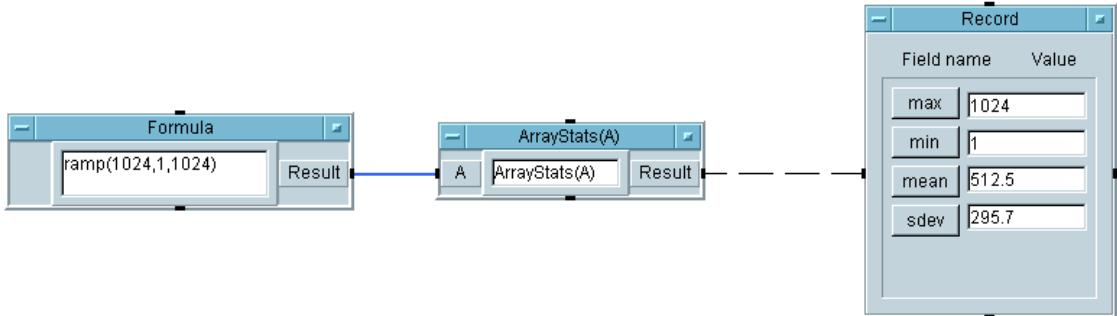

Figure 8-8. Generating a Call Object `ArrayStats(A)` from a `UserFunction`
3. Place the object in Main. Notice that VEE automatically names the new object `ArrayStats (A)` and includes the expression `ArrayStats (A)` to call the `UserFunction ArrayStats`.
4. Connect the output from the `Formula` object to `ArrayStats (A)`, and connect the output from `ArrayStats (A)` to `Record`.
5. Run the program. It should look like Figure 8-8.